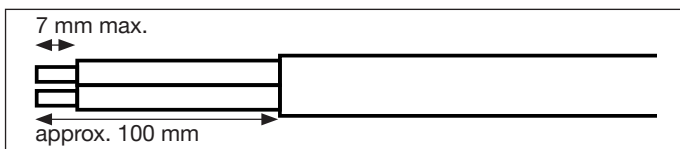

Figure 1: Remove cable insulation
- Remove cable insulation to a length of approx. 100 mm (see „Figure 1“).
- Remove the insulation from the wire conductors to a max. length of 7 mm (1/4“) (see „Figure 1“).